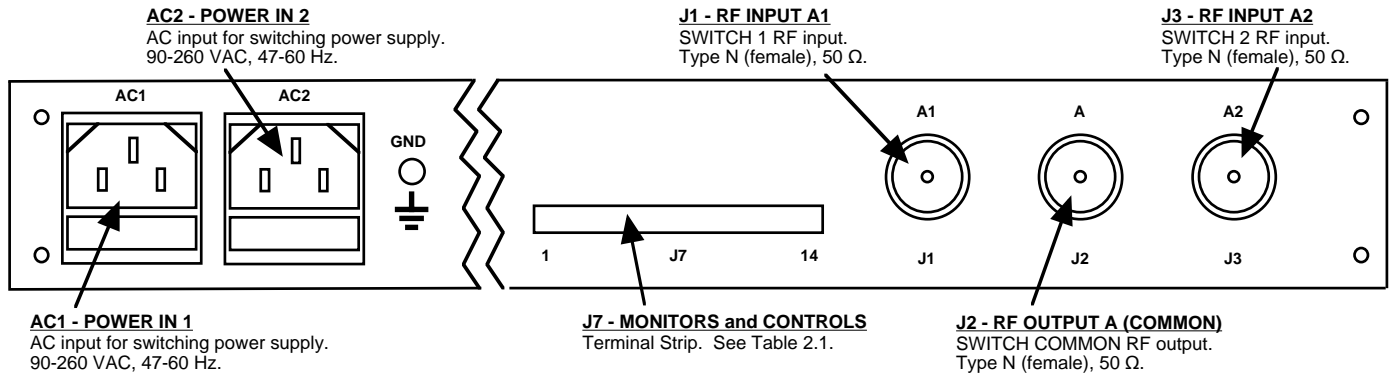

FIGURE 2.2 1582-650 RF Switch Rear Panel Inputs/Outputs
2.2 Input and Output Signals - Figure 2.2 shows the input and output connectors on the rear panel.
4. Connect to signals on the MONITORS AND CONTROLS connector, J7, as desired (see Figure 2.2, Table 2.1).